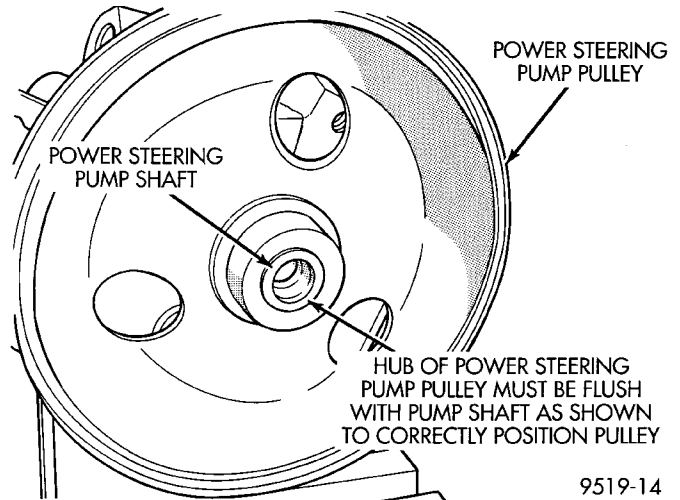

Fig. 42 Correctly Installed Power Steering Pump Pulley
(3) Ensuring that special tool and pulley remain aligned with pump shaft, force pulley onto power steering pump shaft until flush with the end of the shaft (Fig. 42). **When pulley is flush with shaft tool will no longer be able to be turned.**
(4) Remove Installer, Special Tool C-4063 from power steering pump.
(5) Install power steering pump and bracket assembly back on engine. Refer to Power Steering Pump Installation in the Power Steering Pump Ser-